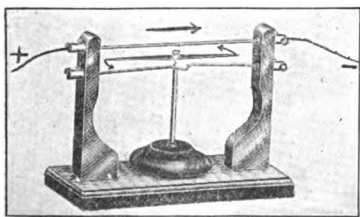

FIG. 194
This shows that there is a magnetic field around a current-carrying conductor. If the apparatus represented in Figure 194 is set up so that the wires lie in a north-south line with the mag-
**223. Electromagnet.** If a current flows from south to north in the upper wire of Figure 194, and from north to south